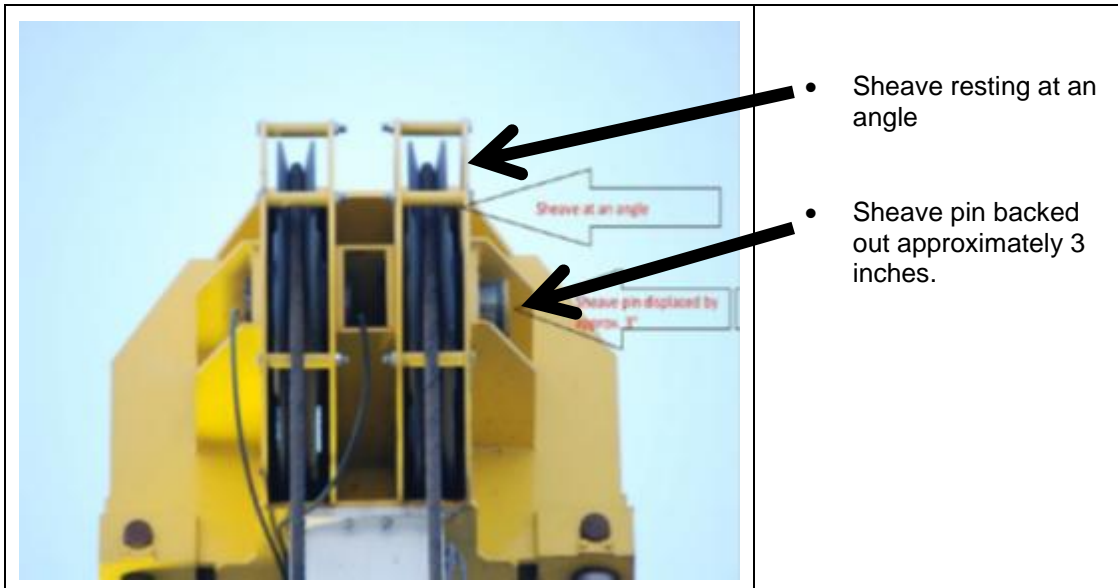

Figure 2
- A visual inspection, performed by crew from the ground using a camera with a telephoto lens, identified that the sheave pin (which forms the axle for the sheave) had moved laterally and the sheave was noticeably leaning from its normal, vertical position. (Fig. 2)